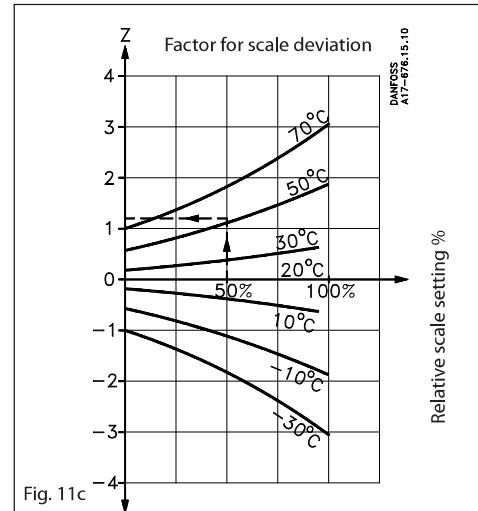

Fig. 11c
Z can be found from fig. 11c, while a is the correction factor from the table.
Factor for scale deviation (see fig. 11c): + 1.2 (Z)